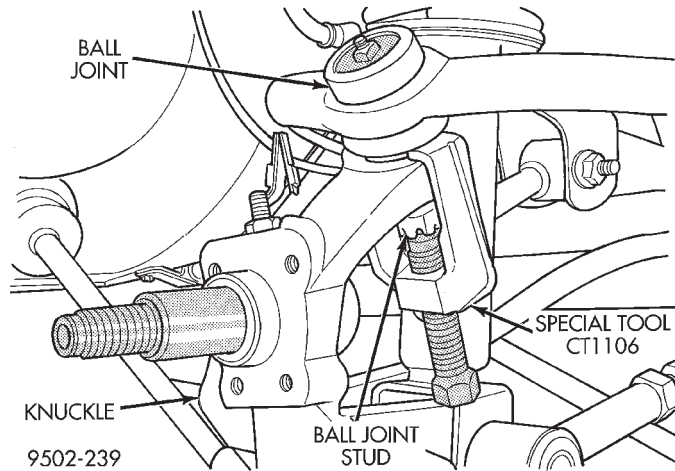

Fig. 14 Removing Ball Joint Stud From Knuckle
(9) Remove cotter pin and castle nut attaching upper control arm ball joint to knuckle.
(10) Remove ball joint stud from knuckle using Puller, Special Tool, CT-1106 (Fig. 14). When using puller, install castle nut on ball joint stud (Fig. 14) to protect threads from damage.